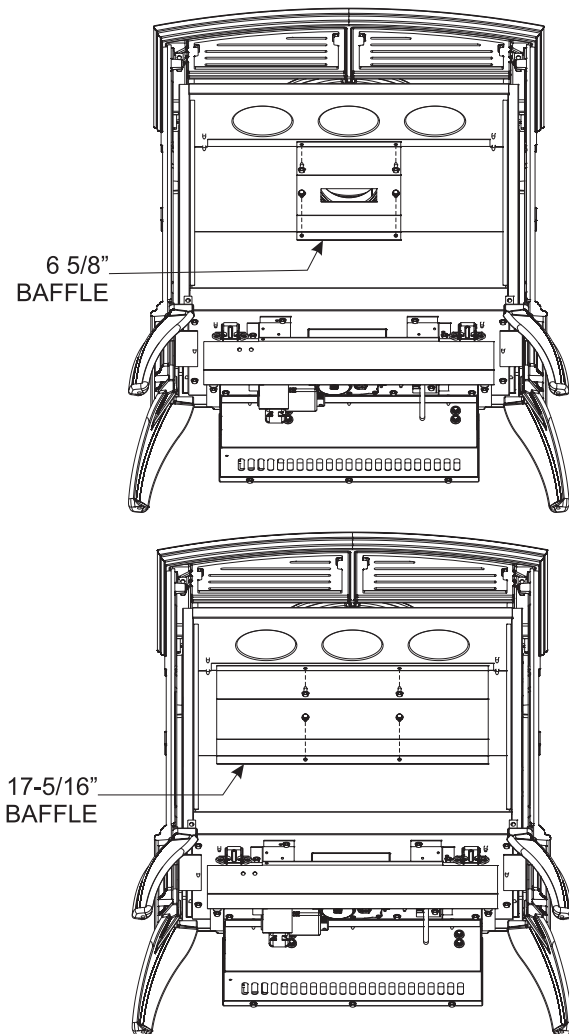

Figure 1
22. Remove flue vent baffle (17-5/16" wide). Install new flue vent baffle (6-5/8" wide, DVP30CC only). **See Figure 1.**